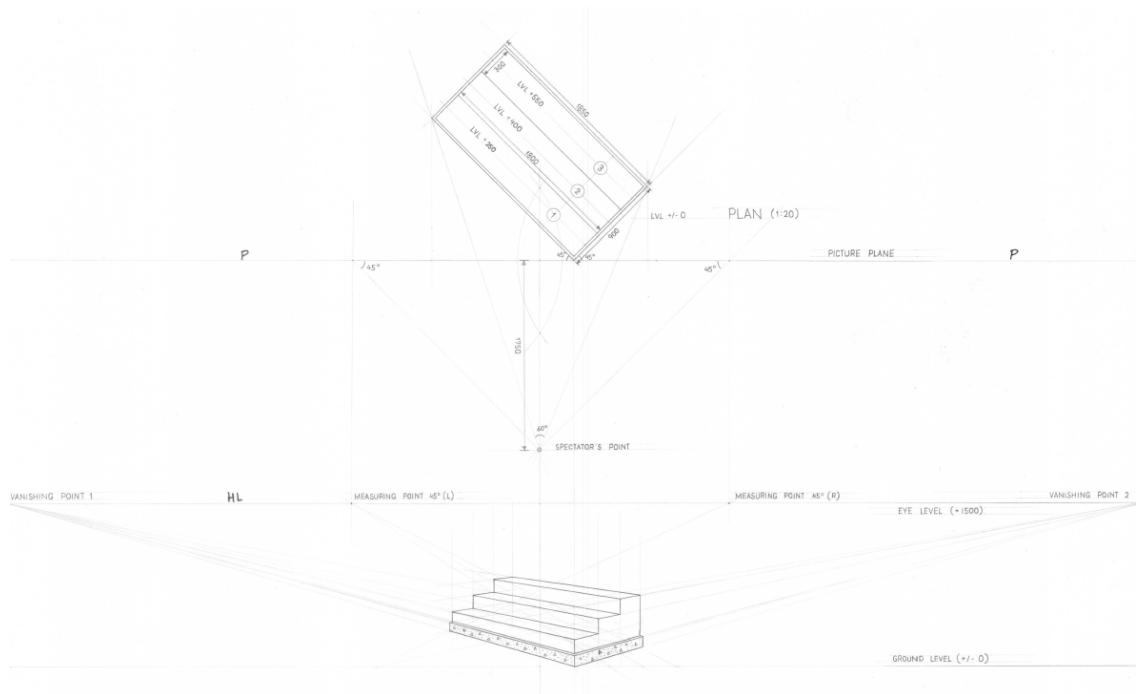

*Fig 5.11 Two Point Perspective*
1. Assume a line indicating Picture Plane (PP). Object is kept on the ground hence its plan is drawn on line PP. object is making an angle of 30 degree with the picture plane.
4. Draw one horizontal line (HL) above ground level at a height equal to observer's eye level i.e., 1.5m.
6. from S join all the points of object up to PP and then project them vertically downward up to ground level (GL).
7. point A touches the PP hence true height and perspective height of this point will be same. Transfer true height of the object of this line and converge them to vanishing points V1 and V2. These converging lines cut vertical projections of B and D at B1 B2 and D1D2 (upper and lower points of object). Hence sides A1 D1 A2 D2 and A1 B1 and A2 B2 are drawn **Fig 5.11**.